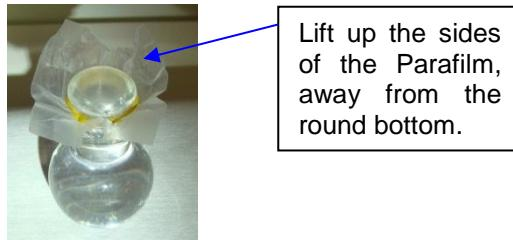

Figure 21 – MIT Vial with Parafilm Cover
3. Immediately center the Parafilm square, with the paper protected side down, over the top of the vial and press it into place forming a seal with the outside of the neck as shown in Figure 21. Secure, by double wrapping the vial neck with a #10 rubber band.
6. Immediately re-cover the MIT Vial in the same manner as done in Step 1 (on page 29) and shown in Figure 21.